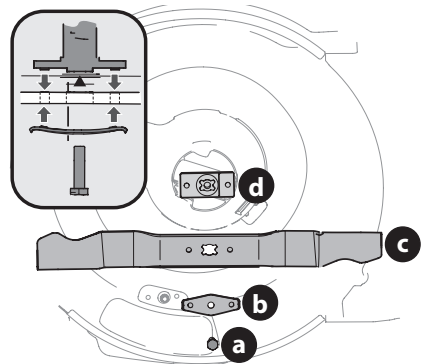

Figure 36
4. Remove bolt (a) and blade bell support (b) which hold the blade and the blade adapter to the engine crankshaft (Figure 36).
5. Remove blade (c) and blade adapter (d) from the crankshaft (Figure 36).
7. Lubricate the engine crankshaft and the inner surface of the blade adapter with light oil (Figure 36 inset).